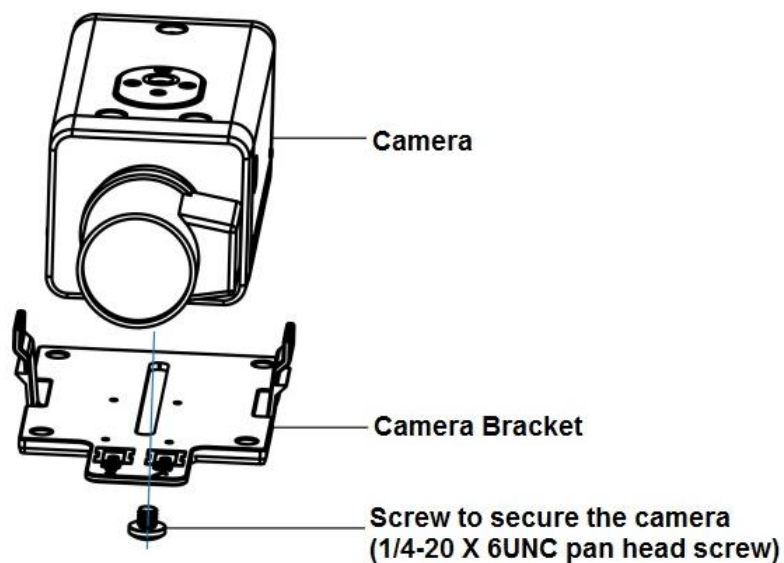

Figure 2-2
Step 2: Fix the camera on the camera bracket. See Figure 2-2